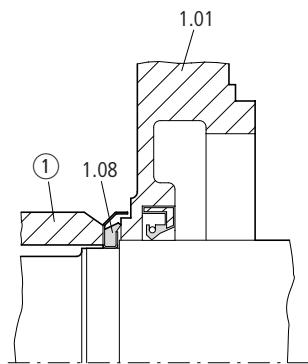

Figure 29: Fitting axial shaft seals
- ▶ Fit any DE (1.08) or NDE (2.06) axial shaft seals using a suitable sleeve bush ① (→ Fig. 29).
- Depending on type, insert any axial sealing rings with a sleeve bush (→ Fig. 29).